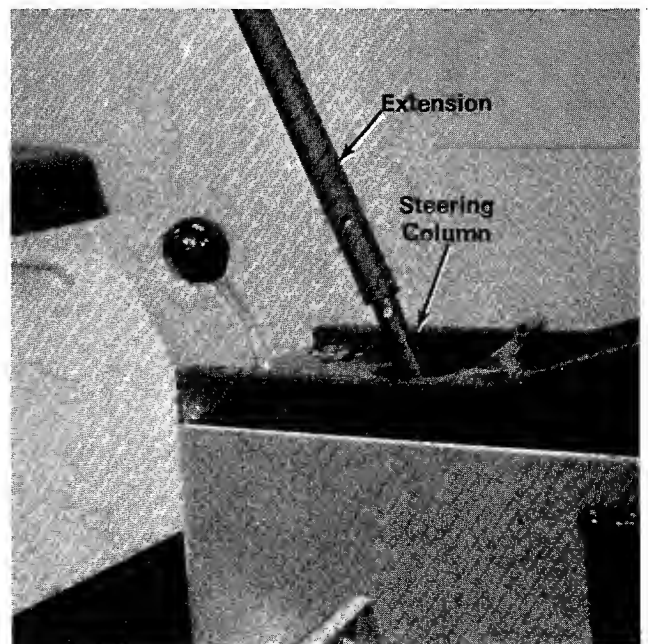

Figure 1
1. Place the extension over the steering column on the dash board. (See figure 1.)